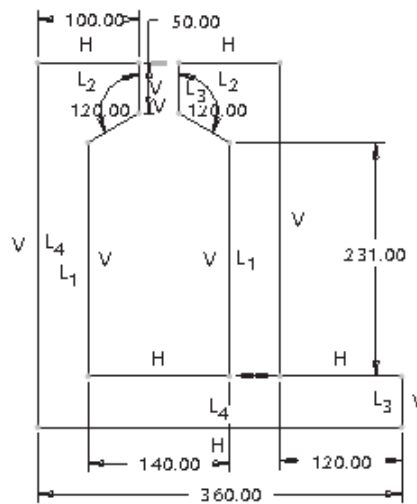

Figure 2-32 Complete sketch with dimensions and constraints
4. When all dimensions are modified, choose the **Regenerate the section and close the dialog** button from the **Modify Dimensions** dialog box; a message **Dimension modifications successfully completed** is displayed in the message area. The completed sketch is shown in Figure 2-32.